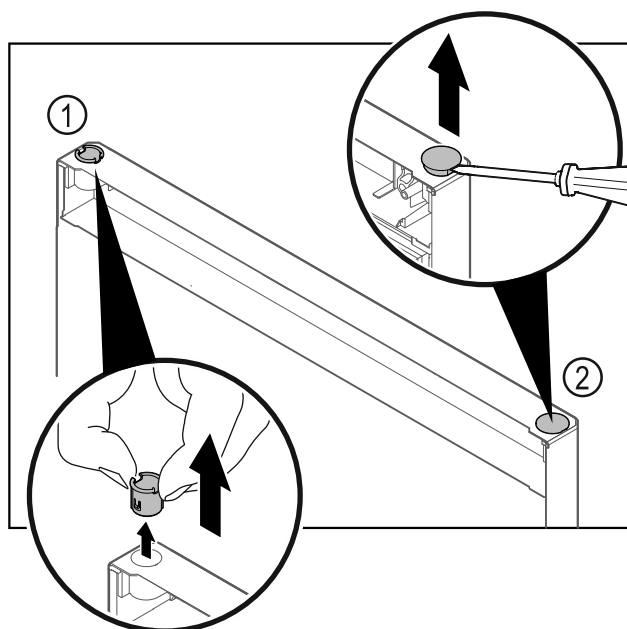

Fig. 39 Freezer compartment door
- Pull out the hinge bushing *Fig. 39 (1)* with your fingers.
- Carefully lift the cover plug *Fig. 39 (2)* with a slotted screwdriver and pull it out.